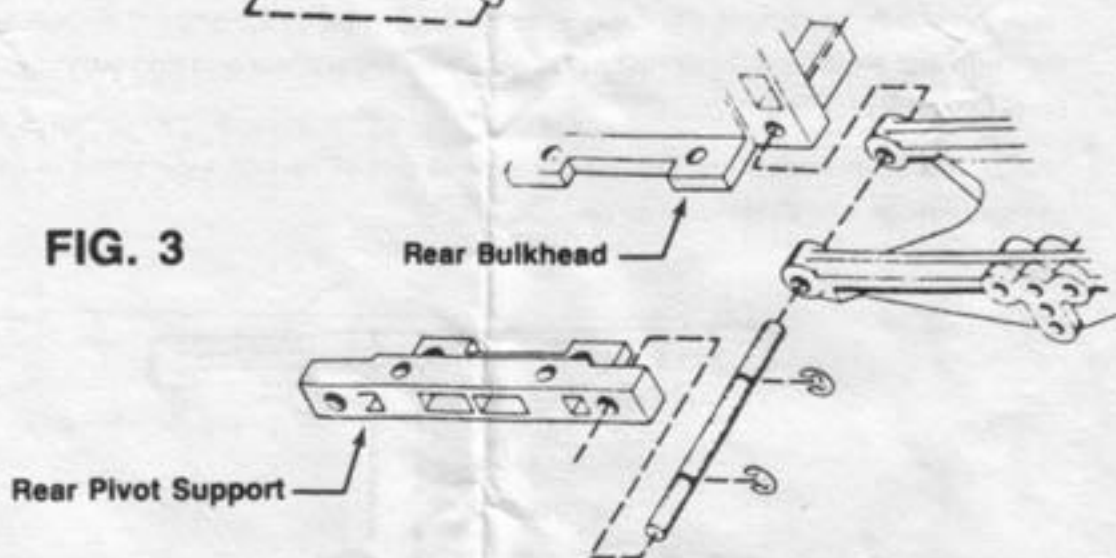

FIG. 3
11. Align the holes on the free end of the H-arm with the holes in the rear pivot support and the rear bulkhead. **FIG. 3**